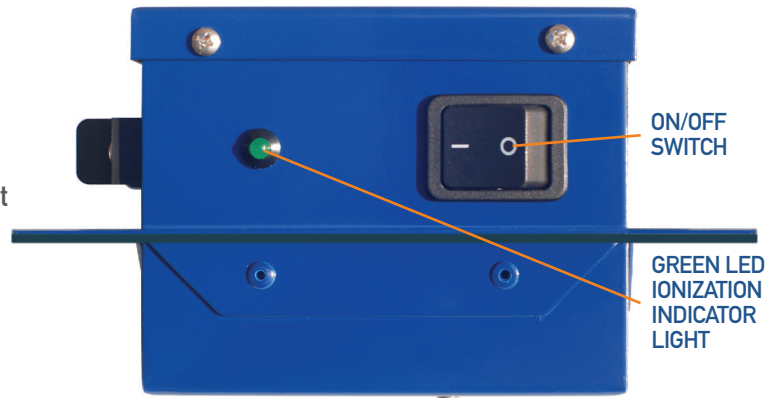

FIGURE 3 – Right view of ionizer
- 1) When power is supplied to the ionizer and the switch is in the “on” position, the ionizer will be activated and will illuminate the green ion indicator light. (See figure 3)